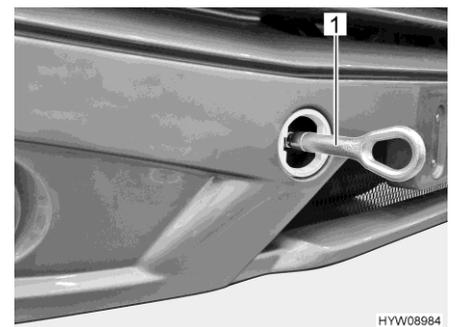

Fig. 29 Towing eye (mounted)
- Mount the towing eye (Fig. 29,1) in accordance with the instructions in the operating manual of the base vehicle.